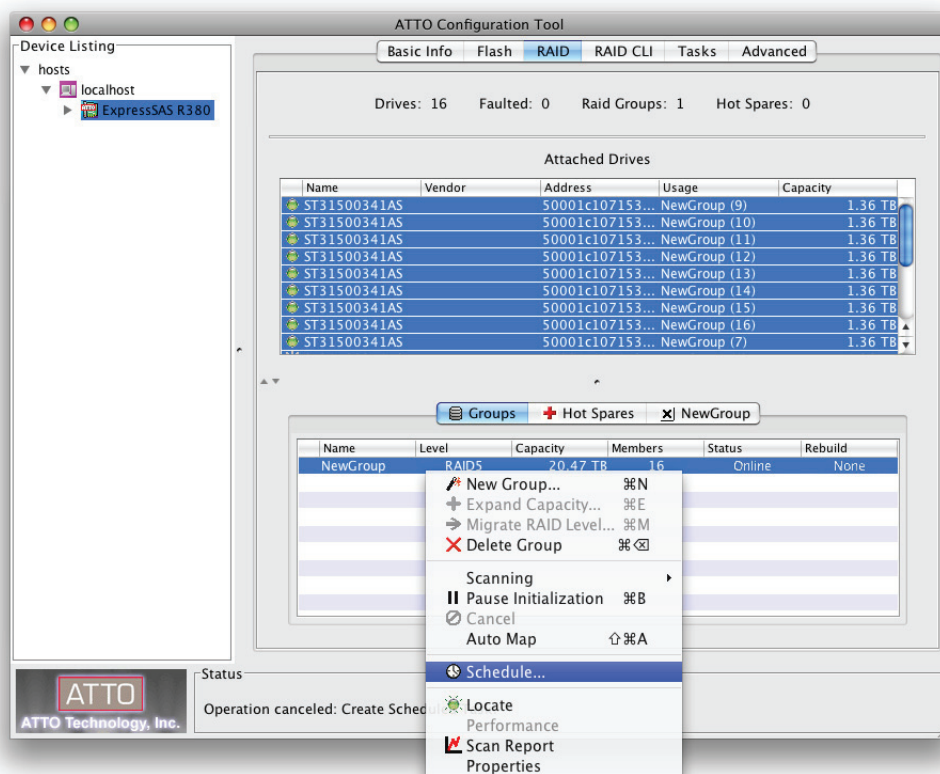

Figure 24
2. Control-click (or right-click) the RAID group and select Schedule. See **Figure 24** on page 28. You may also select RAID Management > Schedule from the application menu.